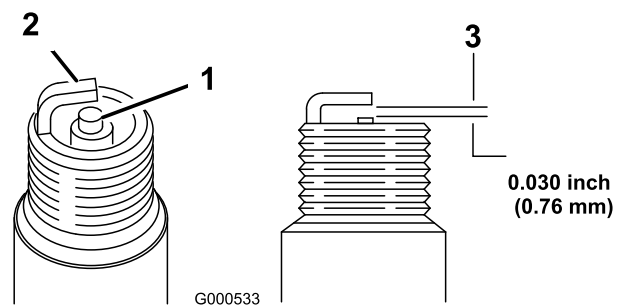

Figure 34
1. Look at the center of the spark plug (Figure 34). If you see light brown or gray on the insulator, the engine is operating properly. A black coating on the insulator usually means the air cleaner is dirty.
2. Check the gap between the center and side electrodes (Figure 34). Bend the side electrode (Figure 34) if the gap is not correct.